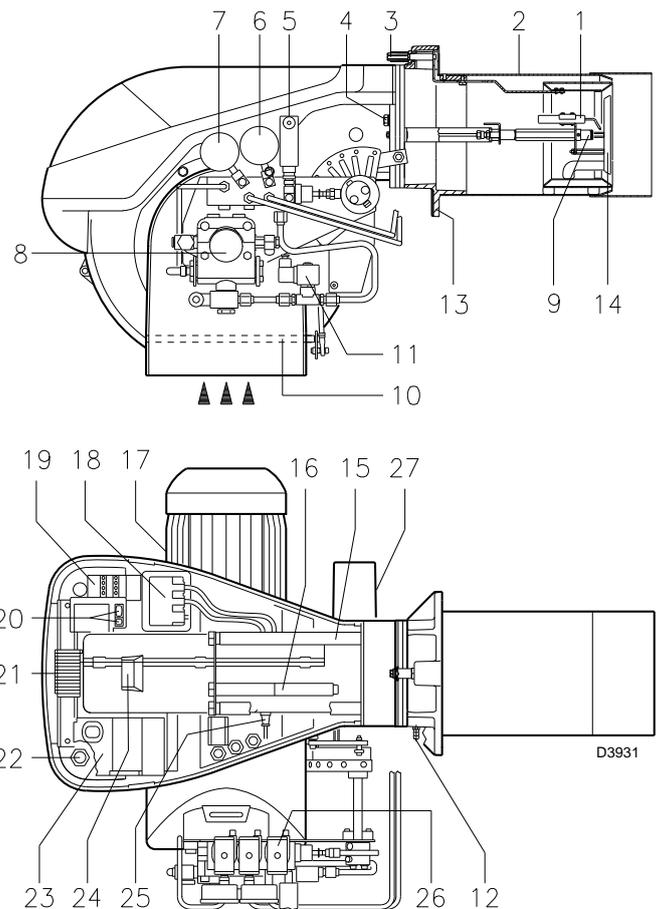

Fig. 6
if the control box 23)(Fig. 6) pushbutton lights up, it indicates that the burner is in lock-out. To reset, press the pushbutton.
release by pressing the pushbutton on thermal relay 19)(Fig. 6).
- 4 - Extensions 16) for slide bars 15)(Fig. 6)